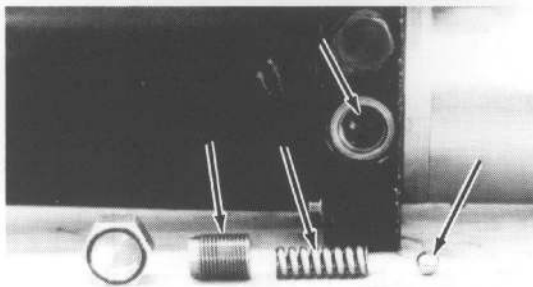

Figure 1-3
3. Remove the slotted screw, spring and ball. See figure 1-3.
6. Re-install the ball, spring and adjustment screw. (the adjustment screw should be turned in approximately five full turns). See Figure 1-3.